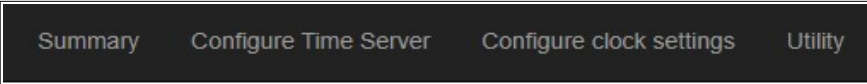

Fig. 17 ENIAC Web Navigation bar
4. The information is quite detailed and self explanatory. It shows what current method of time acquisition is in use, labelled ‘*Current time source*’ for example, when the last update was done, as well as network connection information. In the top right of the web page you can see the navigation bar (Fig 17.)